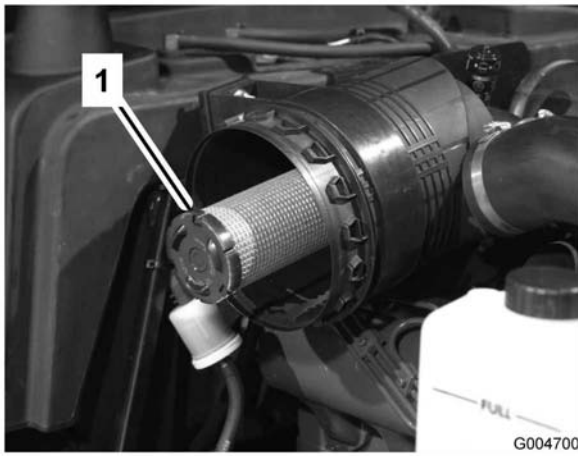

Figure 48
3. Remove the primary filter (Figure 47). Cleaning of the used element is not recommended due to the possibility of damage to the filter media. Inspect the new filter for shipping damage, checking the sealing end of the filter and the body. Do not use a damaged element. **Do not** remove the safety filter (Figure 48).
Important: Never attempt to clean the safety filter (Figure 48). Replace the safety filter with a new one after every three primary filter services.